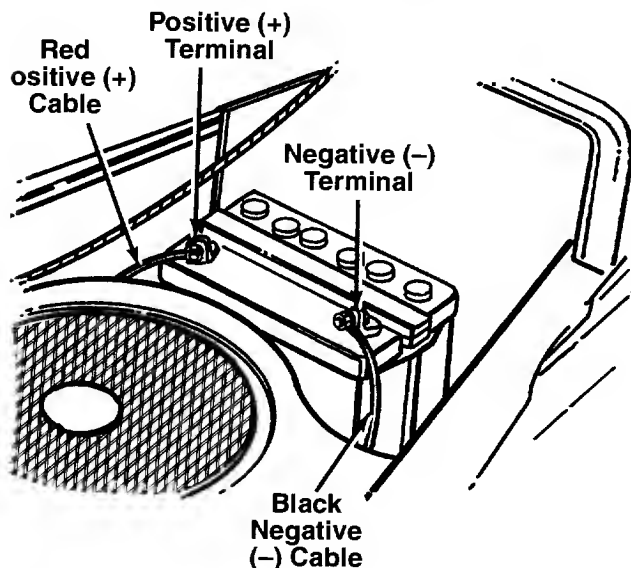

FIGURE 11.
2. Attach the positive cable (heavy red wire) to the positive battery terminal (+) with hex bolt and hex nut. See figure 11. Slide the rubber boot down over the positive terminal.